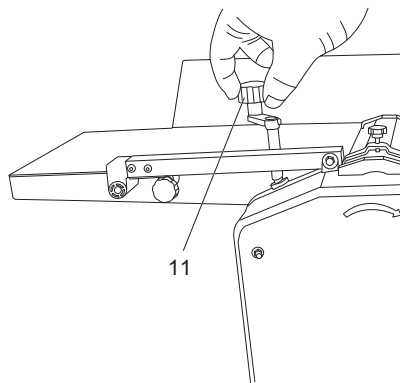

Fig. 11
> Fit the height adjusting handle (11) over its shaft. (Fig. 11)